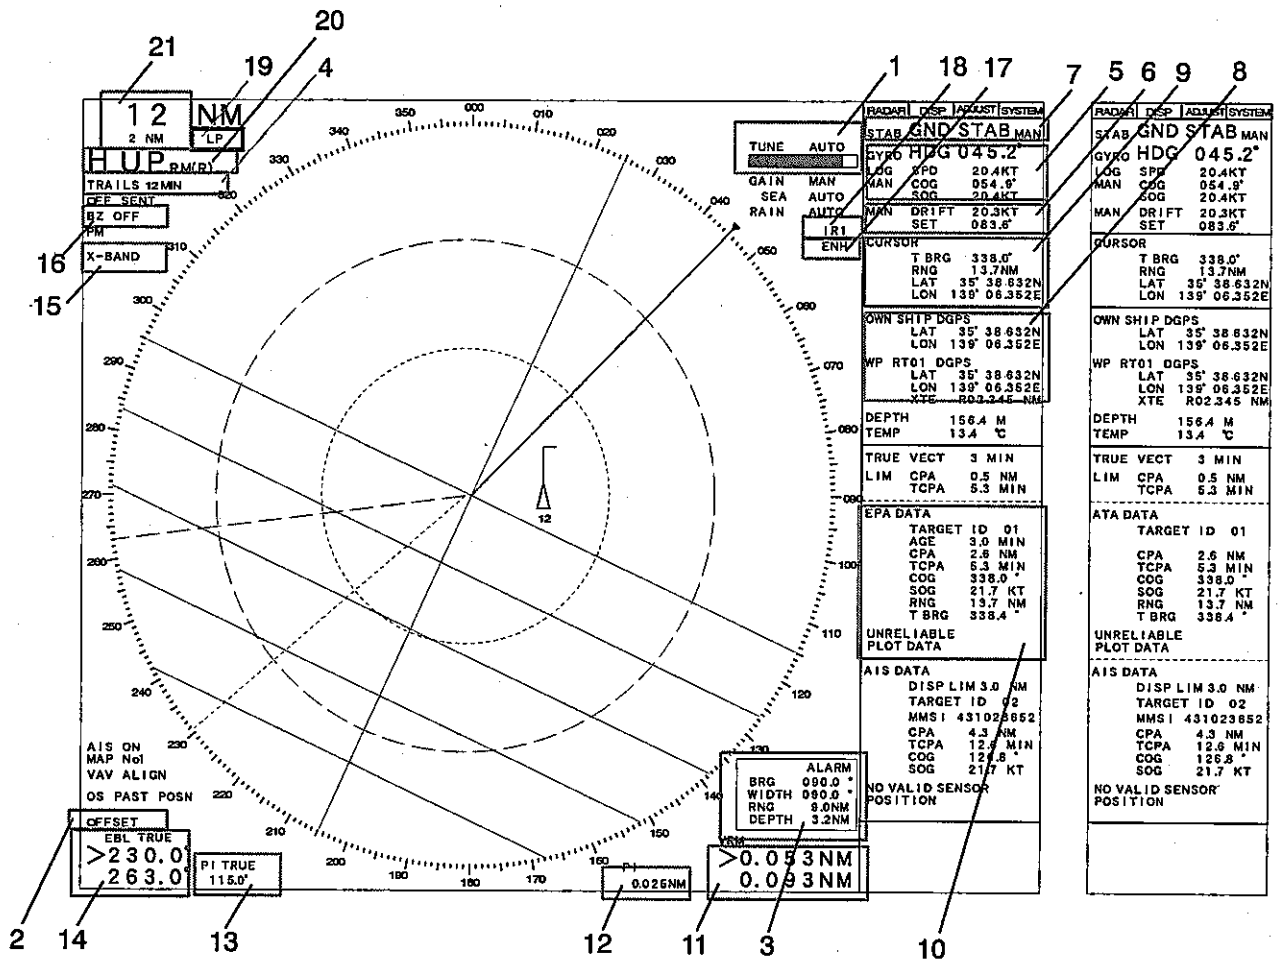

Figure 5.2 MDC-1800B series On-screen information
- (1) Press the POWER ON/OFF key switch. The red LED lamp lights accordingly and a 3-minute timer starts to count down. At the same time, the following information will be shown on the screen.
- (2) When the countdown timer finishes, the STANDBY sign will appear on the screen.
- (3) Press the STBY/TX key to transmit. The radar starts transmission and the radar video, alphanumeric and graphic information will be shown on the screen at a preset brilliance level. Refer to Figure 5.2 for possible screen presentation.
All available screen presentations are shown in Figure 5.2 and respective meanings are given under the illustration.